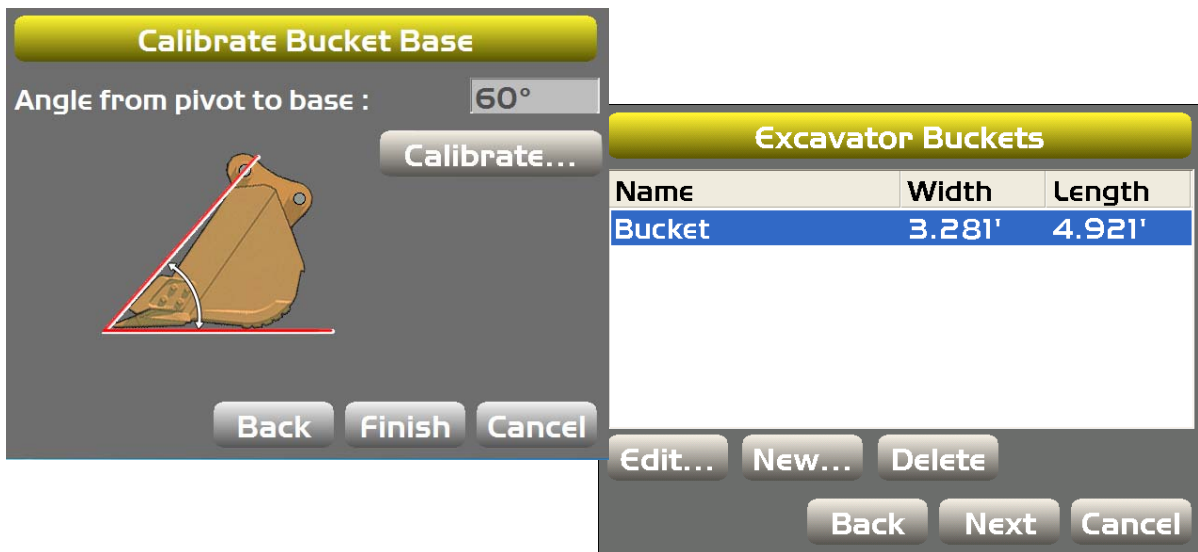

Figure 42: Calibrate Bucket Base
3. Move the bucket so that the bottom of the bucket lays flat on the ground, and tap **Calibrate**; tap **Finish** to go to the **Excavator Buckets** screen (Figure 42).